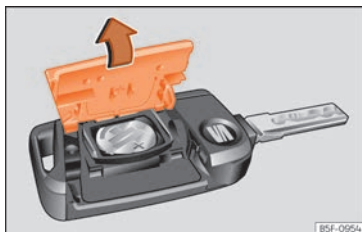

Fig. 122 Vehicle key: opening the battery compartment.
- Remove the cover from the back of the vehicle key **»»** **Fig. 122** in the direction of the arrow **»»** **⚠**.
- Fit the cover as shown **»»** **Fig. 122**, pressing it onto the vehicle key casing in the opposite direction to that shown by the arrow until it clicks into place.